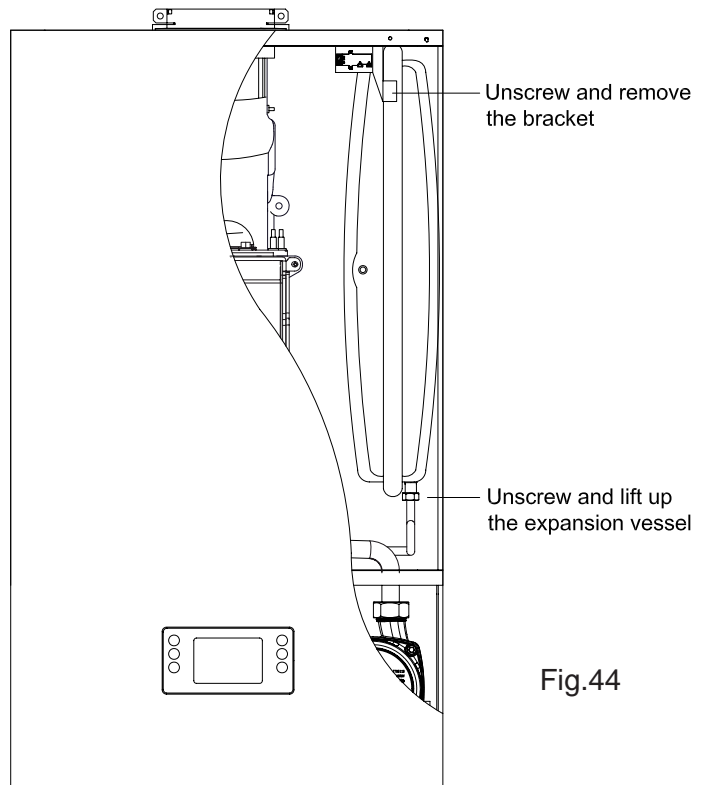

Fig.44
**8.9 TO REMOVE/REPLACE EXPANSION VESSEL (Fig.44)**